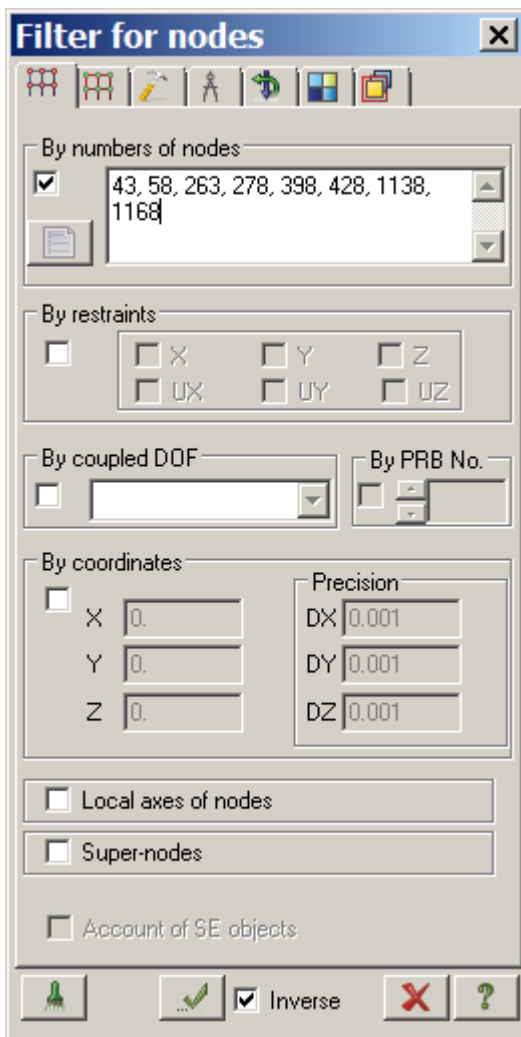

Figure 9.6 Filter for nodes tab
- ⇒ In the **PolyFilter** dialog box, select the **Filter for nodes** tab (the first tab) (see Fig.9.6).